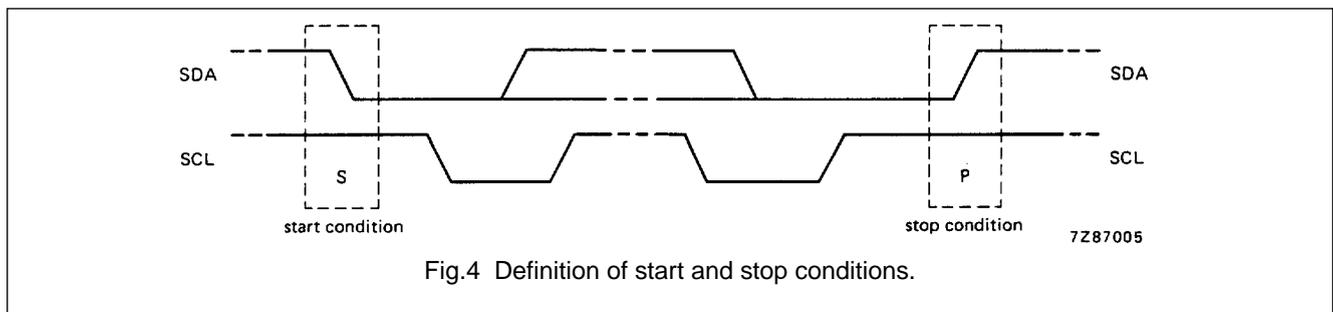

Fig.4 Definition of start and stop conditions.
**Start and stop conditions** (see Fig.4)